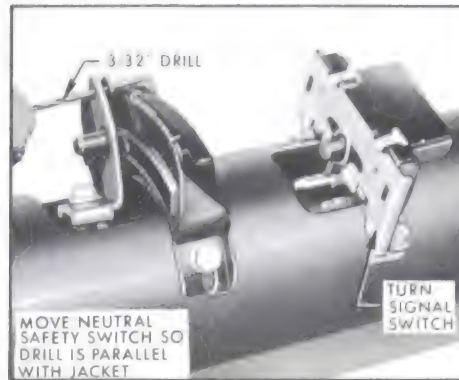

Figure 10-54—Checking Neutral Safety Switch Adjustment
3. Insert a 3/32" drill or a piece of 3/32" drill rod through gauging hole in operating lever and through gauging hole in switch body. See Figure 10-54.